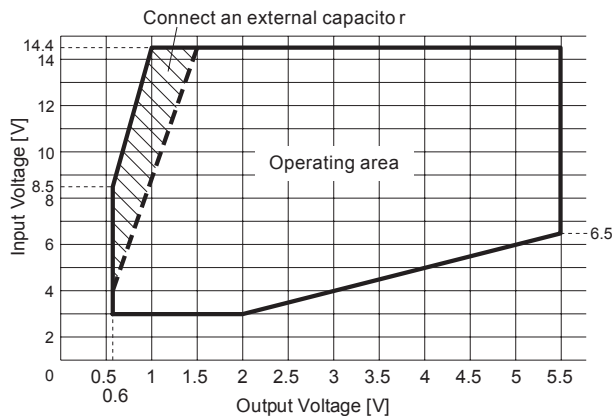

Fig.4.5 Operating area of BRNS series
- Please use the output voltage in the operating area of Fig.4.5. Transient response may worsen when used in vicinity of the border of the operating area.